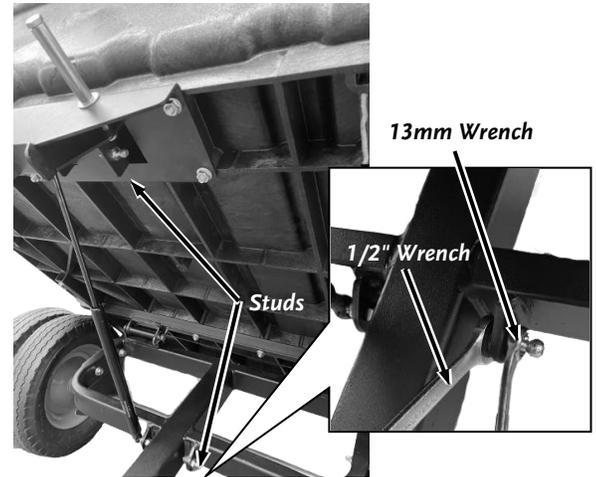

Figure 57
2. With the cart bed open, install the 2nd gas spring by pressing the Gas Spring onto the Studs with the larger end of the Gas Spring attached to the Frame and the thin Shaft end to the Cart Bed. If the Gas Spring does not line up to the studs, you can loosen the stud using a 1/2" Wrench and a 13mm or Adjustable Wrench (*Figure 57*). With the stud loose, it will allow for easier installation. Once the Gas Spring is installed, re-tighten the stud using the same wrenches.